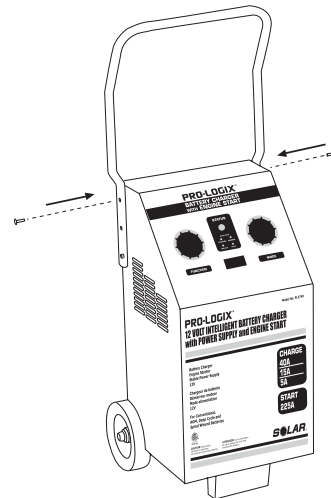

Figure 3. Secure the handle
4. Align the holes in the handle with the screw holes on the side of the charger (the same holes from which you just removed the two screws in step 2). Thread the two screws back into their original holes (Figure 3). Tighten all four handle screws to secure the handle in place.